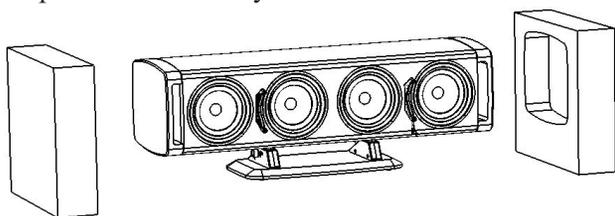

FIG.4
4. Put the cabinet+base on the floor, in horizontal position and remove the foam shells. (FIG.4)